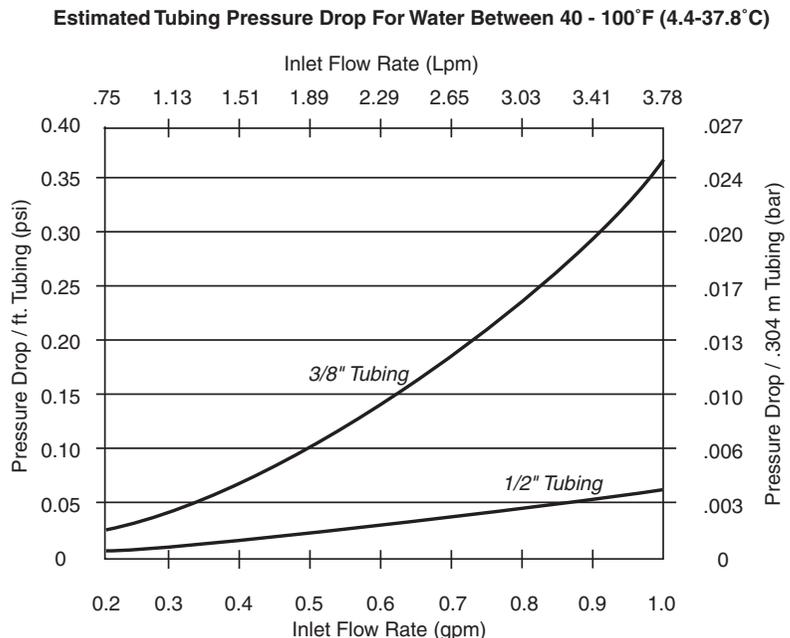

Figure 4
2. Using the estimated flow rate found in step 1 above, find the pressure drop through the tubing with Figure 4.
A: Tubing pressure drop for this installation will be 0.11 psi/ft of 3/8-inch tubing or 0.02 psi/ft of 1/2-inch tubing according to Figure 4. Because 20 ft of tubing will be used, the total tubing pressure drop is: